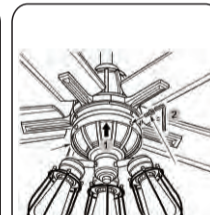

Fig.25
Step 6. Lift the light kit assembly onto the fan body and tighten the 3 screws previously removed before. Then adjust the socket to the suitable angle. (Fig.25)